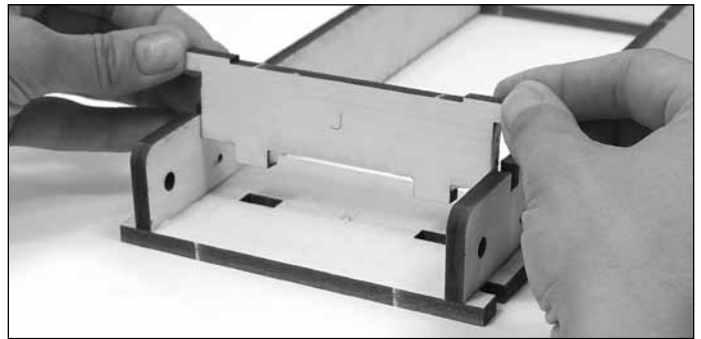

Figure 11
5. Gather the two Parts J. Glue one so the two bottom notches fit into Part M – the side notches will slide into the holes on top of the Parts H (Figure 11). Glue the other J on top of Part G in the same manner.